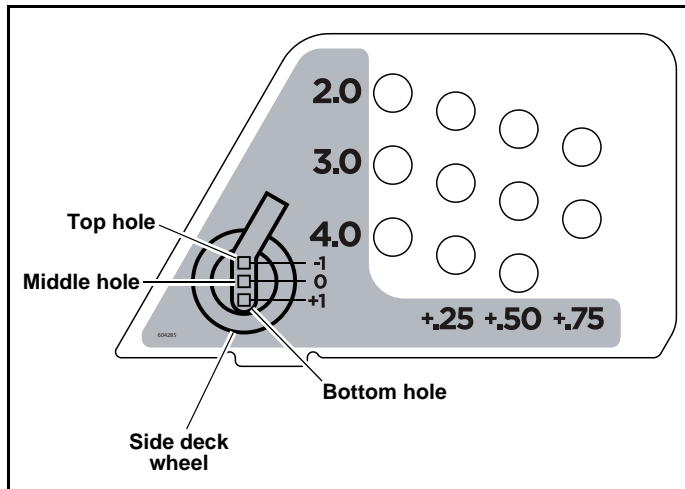

Figure 3-14
6. Use the illustration to establish which height adjusting holes on the side decks to use. Figure 3-14